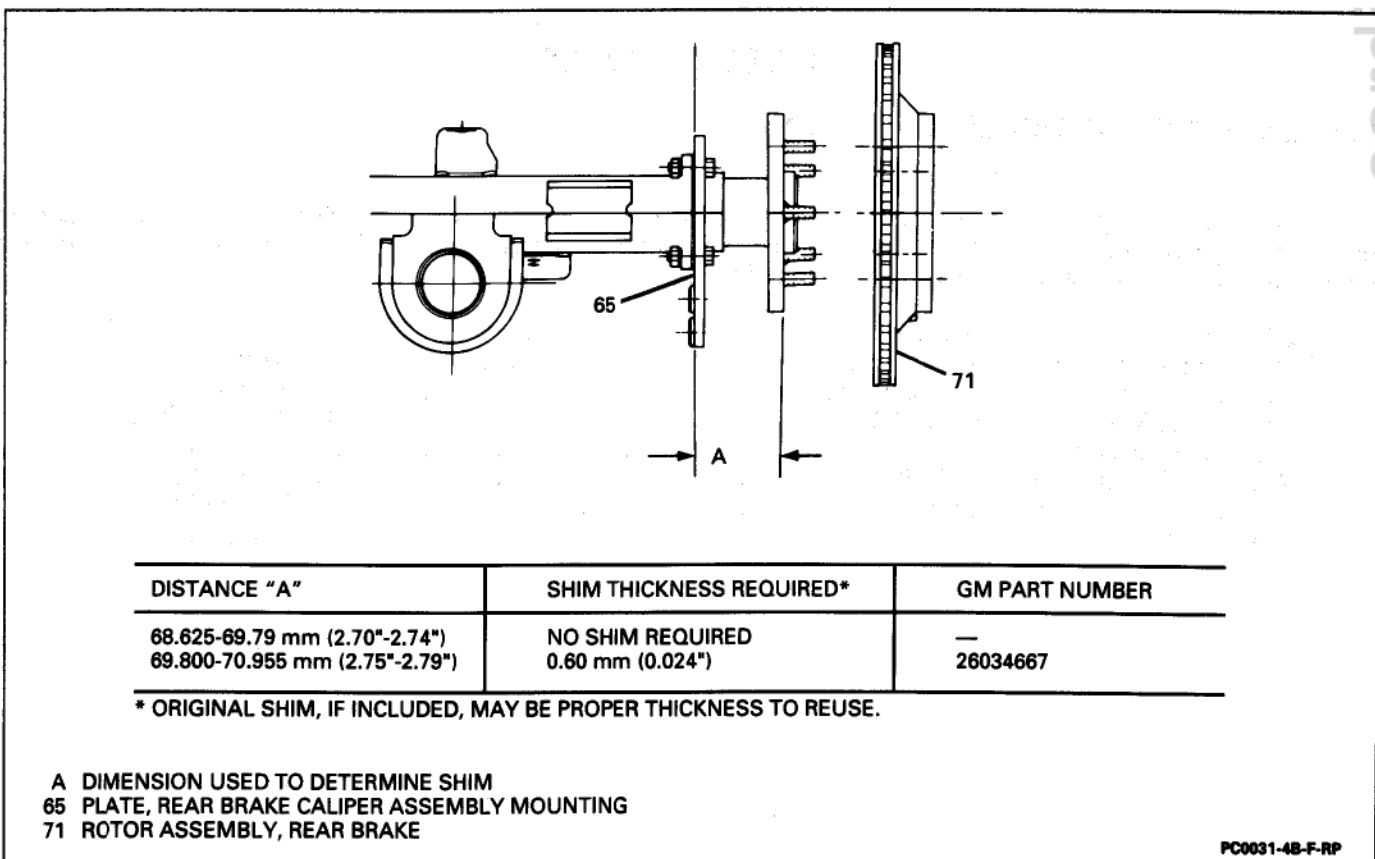

Figure 38 – Brake Caliper Assembly Mounting Plate Shim Selection
2. Select shim (67). Refer to Figure 38.